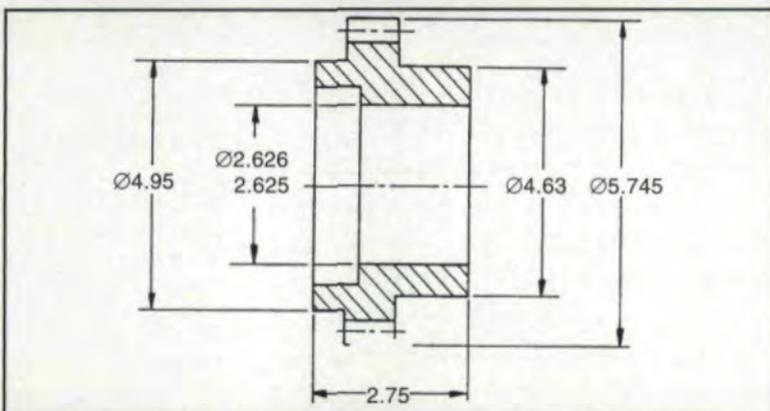

Fig. 4 - Transmission gear blank made from barstock for low-volume and from forging for medium- and high-volume.
*Example 2.* Transmission gear blank made from barstock for low-volume and from forging for medium- and high-volume (Fig. 4).